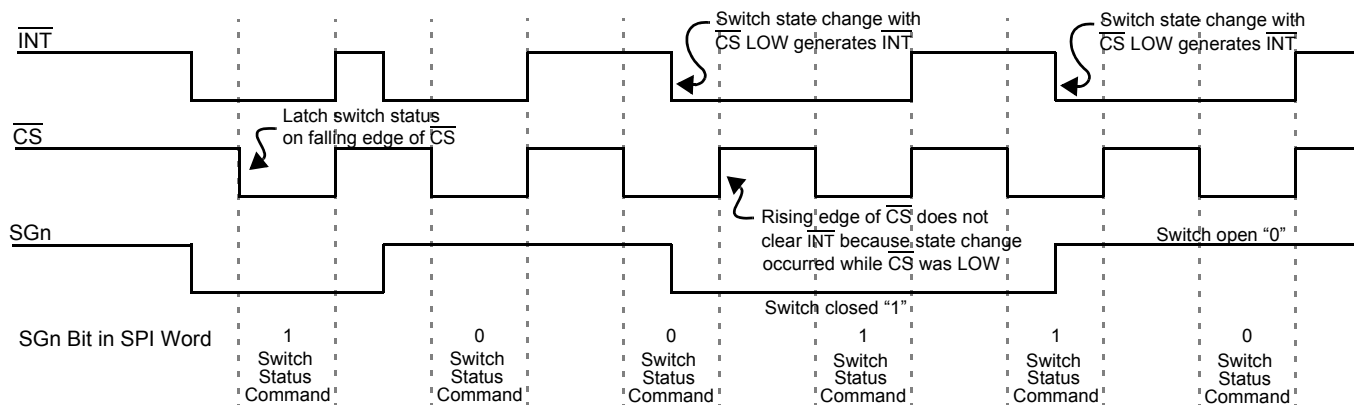

Figure 6. Normal Mode Interrupt Operation
2. $\overline{\text{INT}}$ pin is reset to logic [1], except when additional switch changes occur during $\overline{\text{CS}}$ LOW. (See Figure 6 on page 9.)